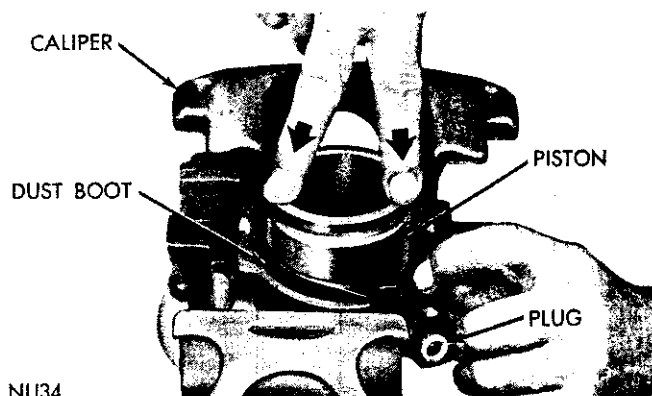

Fig. 17—Installing Piston (Through Boot)
(4) Plug high pressure inlet to caliper and bleeder screw hole, then coat piston with a generous amount of lubricant (as specified above). With fingers spreading boot, work piston into boot and press down on piston. (The entrapped air below piston will force boot around piston and into its groove as piston is depressed). (Fig. 17). Remove plug, then carefully push piston down the bore until bottomed. **Caution: Force must be applied uniformly to avoid cocking.**